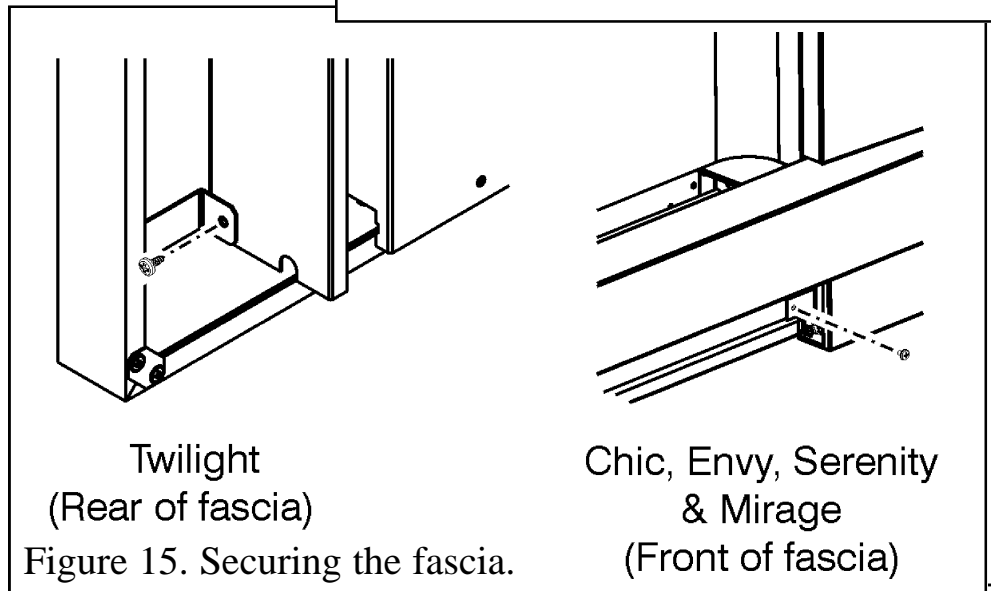

Figure 15. Securing the fascia.
2. The fascia is secured using the two screws with bright metal finish. These are located as in figure 15.